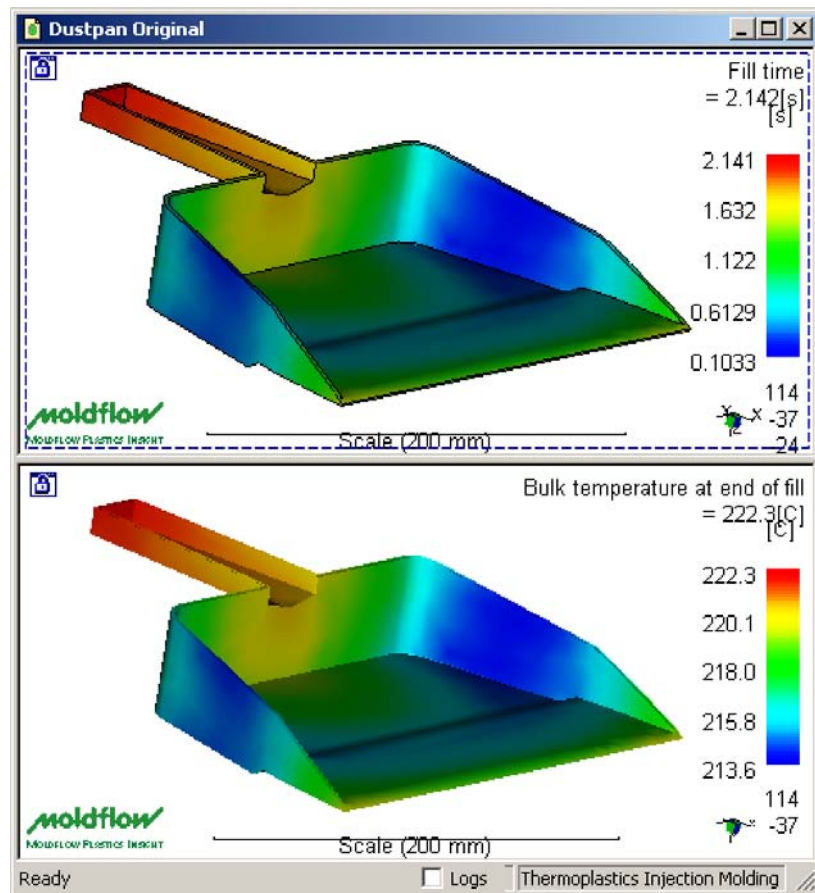

Figure 41: Display window
You can split a study document into one, two, or four sections to simultaneously display different results for the same model. An example of a split in two is presented in Figure 41. You can also use the display area to compare the results of several analyses from the same project. Splitting windows can be done two ways, using the command
- This locks rotating, panning, zooming. Figure 41 has both windows with the view locked.